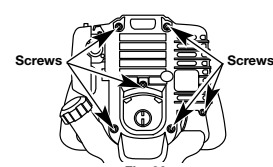

Fig. 36
- Remove the six (6) screws on the back of the engine cover with a Flat-head or T-25 Torx screwdriver (Fig. 36).
- Remove the engine cover (Fig. 36).